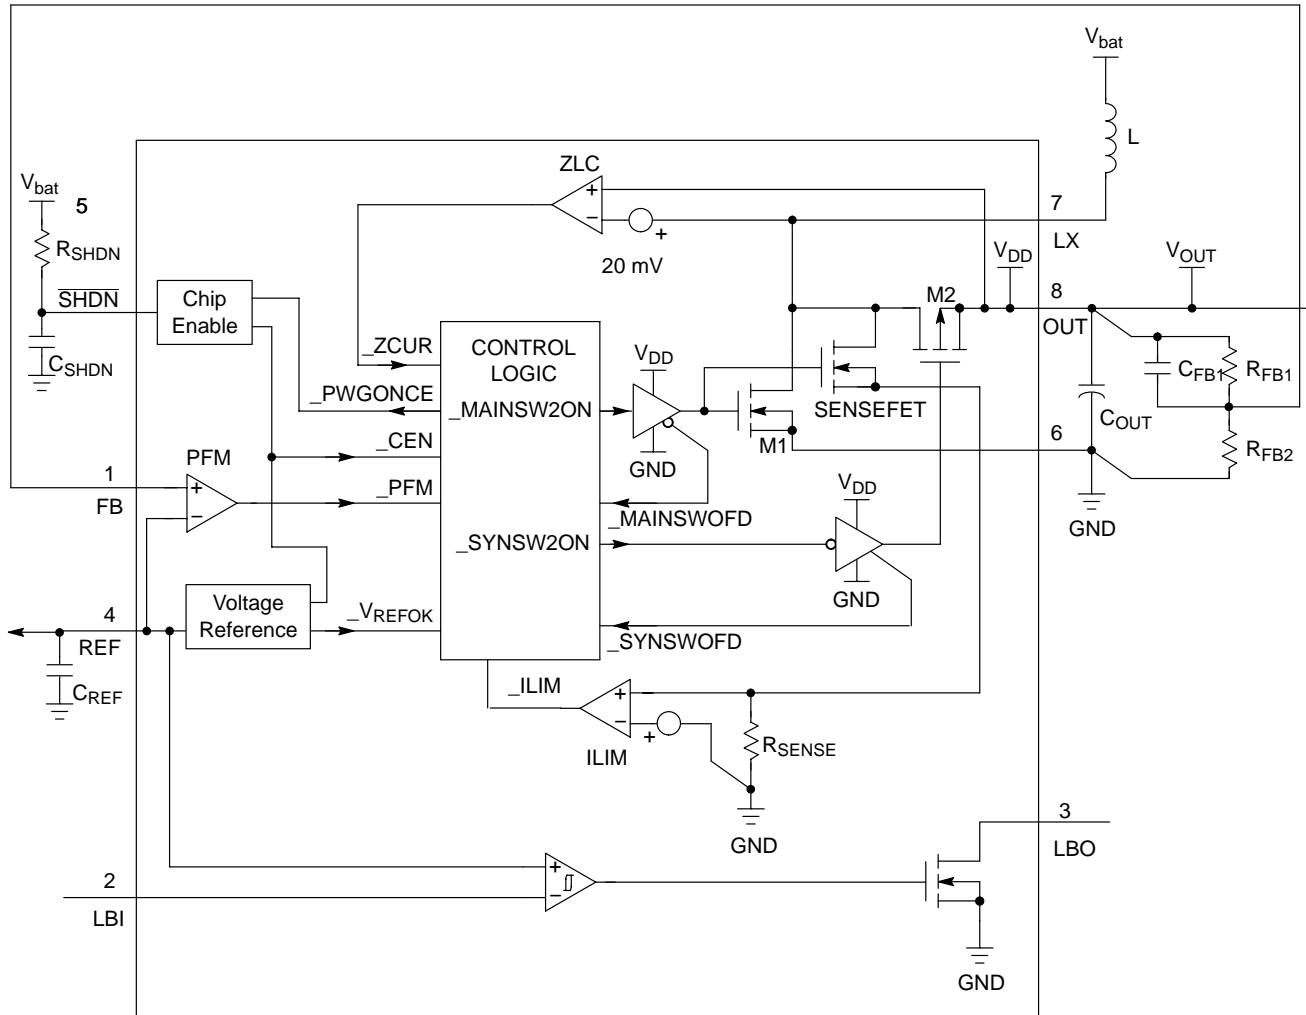

Figure 2. Simplified Functional Diagram
From the simplified Functional Diagram (Figure 2), the output voltage is divided down and fed back to pin 1 (FB). This voltage goes to the non-inverting input of the PFM comparator whereas the comparator's inverting input is connected to REF. A switching cycle is initiated by the falling edge of the comparator, at the moment, the main switch (M1) is turned ON. After the maximum ON-time (typical 1.4  $\mu$ S) elapses or the current limit is reached, M1 is turned OFF, and the synchronous switch (M2) is turned ON. The M1 OFF time is not less than the minimum OFF-time (typical 0.31  $\mu$ S), this is to ensure energy transfer from the inductor to the output capacitor. If the regulator is operating at continuous conduction mode (CCM), M2 is turned OFF just before M1 is supposed to be ON again. If the regulator is operating at discontinuous conduction mode (DCM), which means the coil current will decrease to zero before the next cycle, M1 is turned OFF as the coil current is almost reaching zero. The comparator (ZLC) with fixed offset is dedicated to sense the voltage drop across M2 as it is conducting, when the voltage drop is below the offset, the ZLC comparator output goes HIGH, and M2 is turned OFF. Negative feedback of closed loop operation regulates voltage at pin 1 (FB) equal to the internal voltage reference (1.190 V).
From Figure 2, SENSEFET is applied to sample the coil current as M1 is ON. With that sample current flowing through a sense resistor, sense-voltage is developed. Threshold detector (ILIM) detects whether the sense-voltage is higher than preset level. If it happens, detector output signifies the CONTROL LOGIC to switch OFF M1, and M1 can only be switched ON as next cycle starts after the minimum OFF-time (typical 0.31  $\mu$ S). With properly sizing of SENSEFET and sense resistor, the peak coil current limit is set at 1.0 A typically.
The IC is shutdown when the voltage at pin 5 ( $\overline{SHDN}$ ) is pulled lower than 0.3 V. During shutdown, M1 and M2 are both switched OFF, however, the body diode of M2 allows current flow from battery to the output, the IC internal circuit will consume less than 0.05  $\mu$ A current typically. If the pin 5 voltage is pull higher than 0.6 V, for example, by a resistor connected to VIN, the IC is enabled, and the internal circuit will only consume 9.0  $\mu$ A current typically from the OUT pin. Refer to Figure 2, the product of  $R_{SHDN}$  and  $C_{SHDN}$  must be larger than (500 k  $\cdot$  56 nF, i.e. 28 msec). This is to provide reset pulse for startup as battery is plugged in.